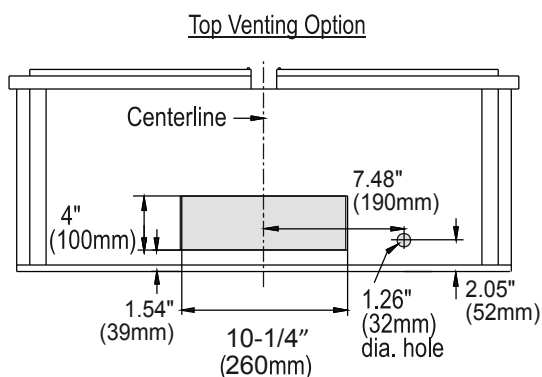
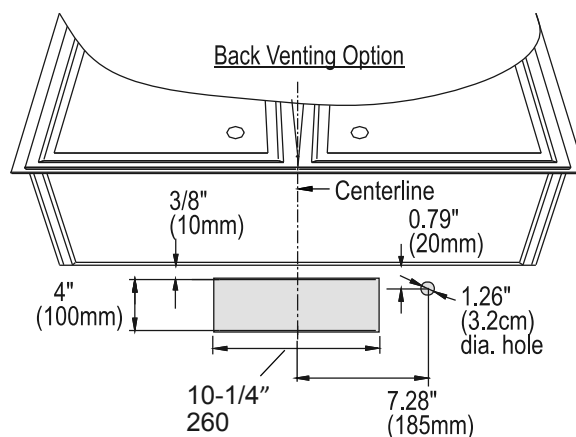

Fig.3
Fig.4
- Determine if your existing venting system is top venting or back venting, and ensure that the openings in the cabinet or wall for the damper and for power access are in appropriate locations and are of appropriate sizes, as per Fig. 3 if it is top venting or Fig. 4 if it is back venting.